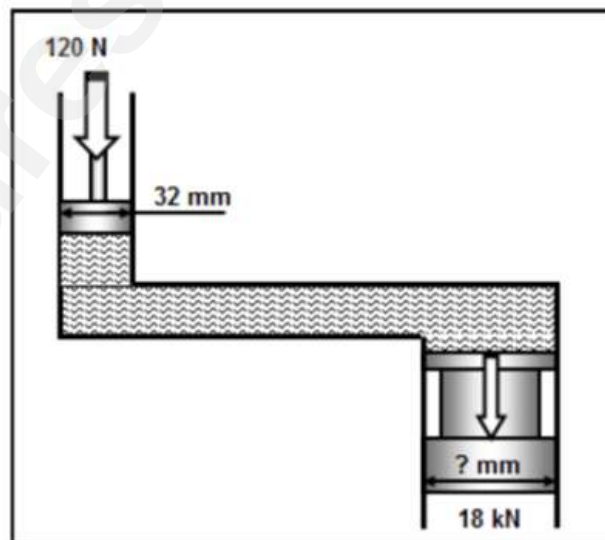

Figure 7.1
7.1 Study FIGURE 7.1 below. An artisan was instructed to design a hydraulic system that will be used to press out bearings. The force that should be exerted on the bearing is 18 kN. The maximum force exerted on the 32 mm plunger is 120 N.